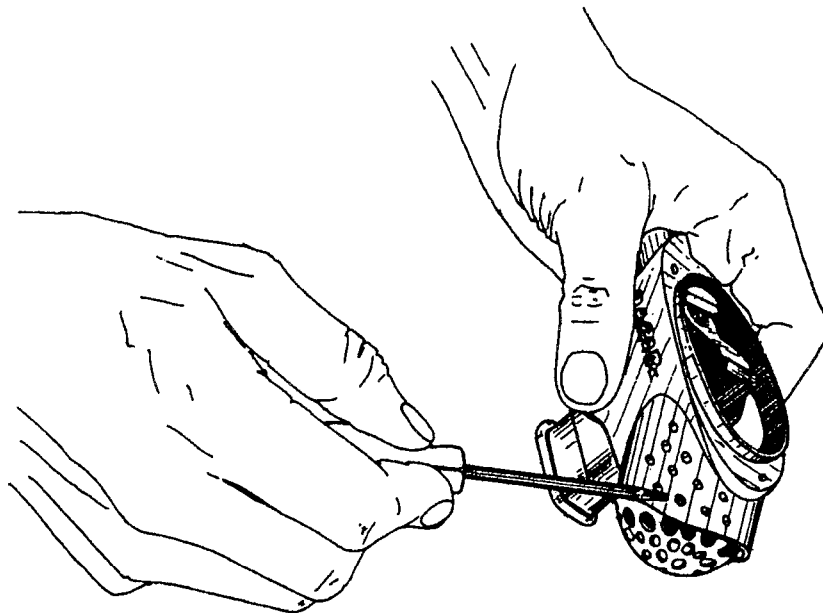

FIG. 1
*DURING DISASSEMBLY OF THE COVER, TAKE CARE NOT TO LOSE THE SCREWS (140) AND WASHERS. THE TECHNICIAN IS ADVISED NOT TO FULLY REMOVE THE SCREWS (140), THE METAL WASHERS (152) AND THE PLASTIC WASHERS (151) FROM THE COVER.*
11. Remove the oval diaphragm (142).
12. Using a small screwdriver (Type "USAG 326 PH 0), press down the fasteners of the exhaust grid (145) to disassemble it from the second stage case (32). (FIG. 1).